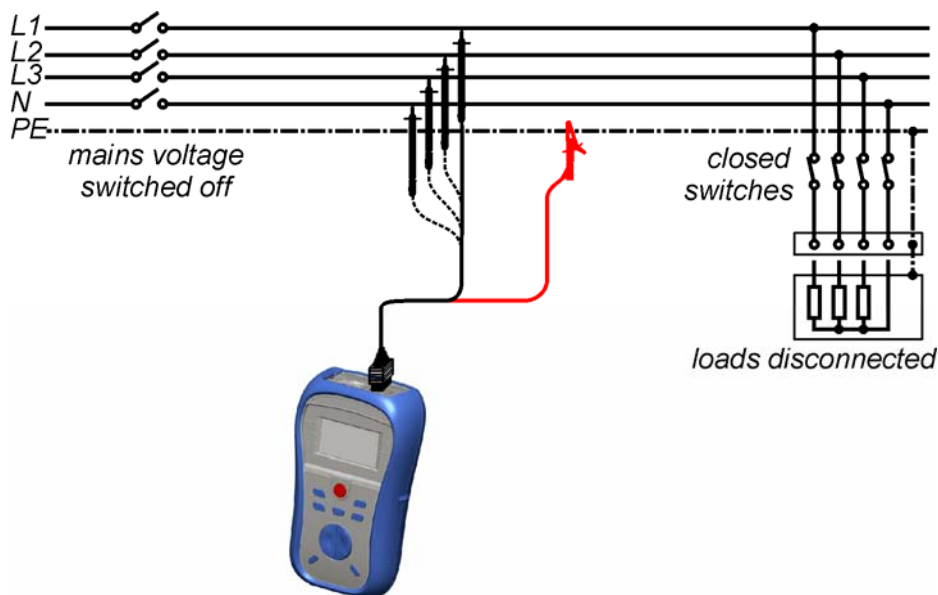

Figure 5.2: Connection of universal test cable
- ❑ **Connect** test cable to the top of the instrument and to the item to be tested (see figure 5.2).